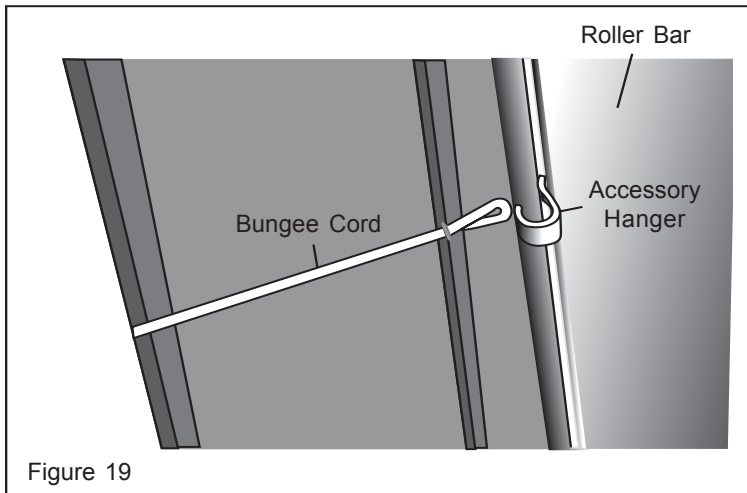
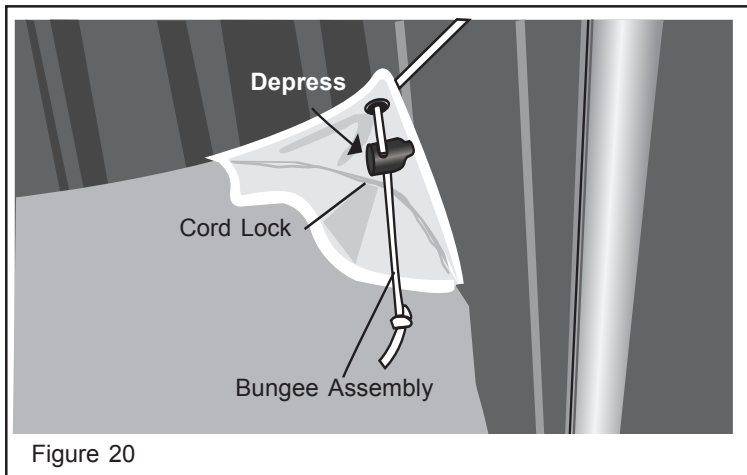

Figure 19
Figure 20
**STEP 29.** Place the small loop of the medium (16") bungees over the accessory hangers installed in the accessory slot (See Figure 19). Tighten the bungee cord by depressing the button on the cord lock and pulling the cord as shown in Figure 20.
**STEP 34.** On the left side, take the small bungee cord and loop it under and then over the top of the rafter assembly and secure the loop over the ball assembly (See Figure 23). Tighten bungee by depressing button on the cord lock and pulling the cord. Repeat procedure for bungee on right side of screen room. **NOTE: You have now installed all of the bungee cords and you should now go back and tie a knot at the bottom of each cord (See Figure 20). This will prevent the cord lock from being pulled off.**